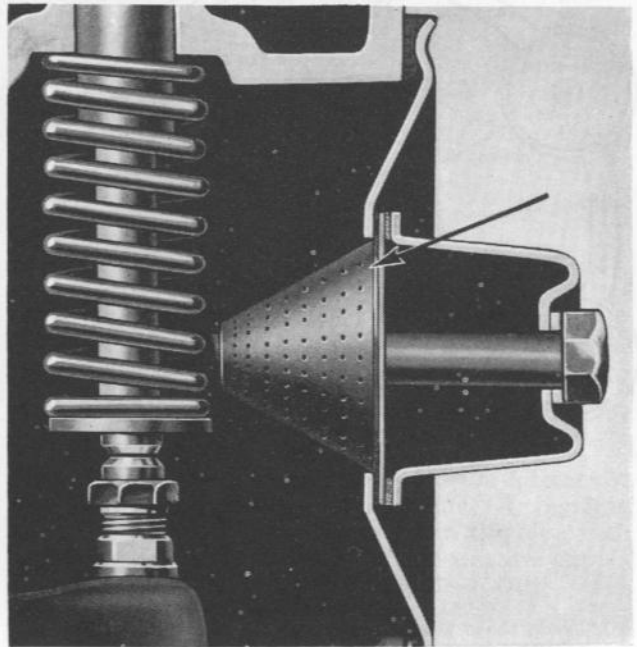

FIG. 9—CRANKCASE VENTILATOR BAFFLE
10. On models so equipped, remove the crankcase ventilator tube which extends from the ventilator valve mounted in the intake manifold to an elbow mounted on the valve cover plate. Remove the valve cover plate screws and the valve cover plate. Care should be taken when removing the valve cover not to lose the copper gaskets on each screw. Discard the screen or baffle Fig. 9, when servicing an engine equipped with the crankcase ventilating system — clean and reinstall it if not so equipped. Use cloth to block off the three holes in the valve chamber floor to prevent the valve keys dropping into the crankcase when they are removed.
Cement a new gasket in position on the valve cover plate. Install the cover being sure the copper ring gaskets are placed under the attaching screw heads. Clean the valve chamber ventilator body baffle, Fig. 9 (discard the baffle if engine is equipped with sealed crankcase ventilation), and reinstall with new gaskets. If the engine is equipped with sealed crankcase ventilation, clean and install the ventilator body to ventilator valve tube.